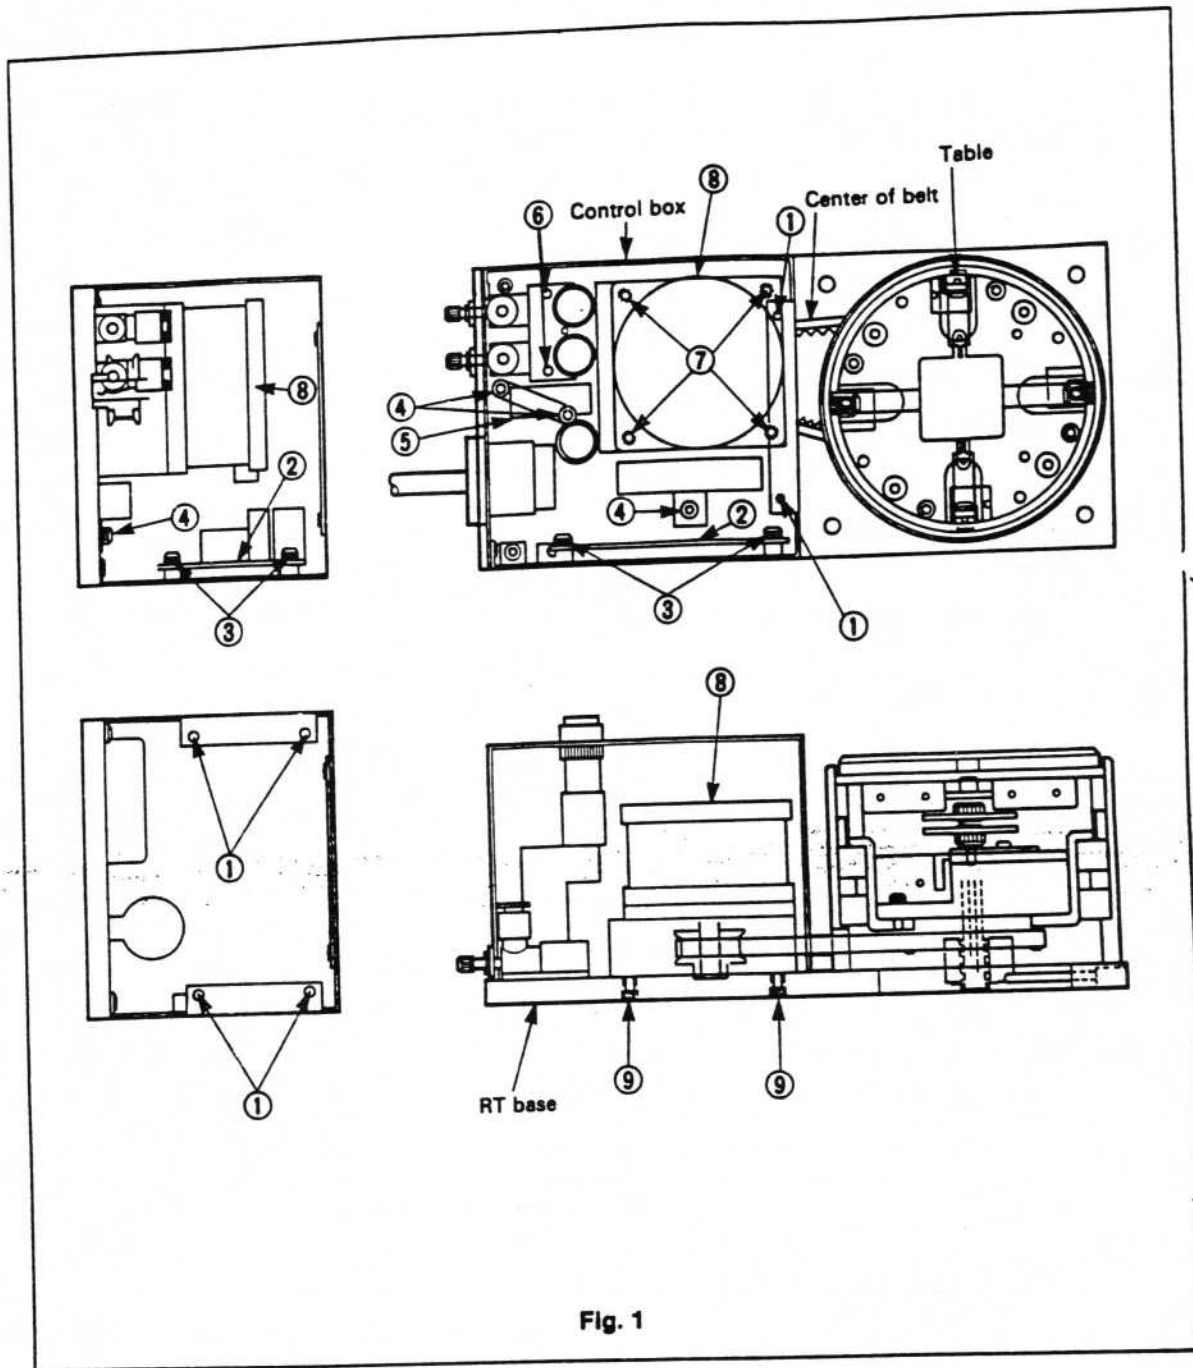

Fig. 1
- (1) Remove the screws (①, x 6) from the control box cover and open the cover (see Fig. 1)
- (2) Remove the connector to the RT PWB (②) (see Fig. 1).
- (3) Remove the board securing screws (③, x 4) and resistor securing screw (④ x 1), and replace the RT board ASSY (②).
- (1) Open the cover as in section 1-(1).
- (2) Remove the solenoid valve securing screws (③, x 2) and manifold securing screws (⑥, x 2) (see Fig. 1).
- (3) Lift the solenoid valve (⑤ in Fig. 1) remove the air tube connected to it, remove the solenoid valve and replace it.